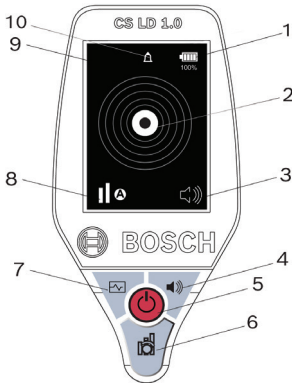

Fig 1.1: HMI View of CS LD 1.0
The unit will default to the Medium sensitivity level and Automatic mode (indicated as shown in item 8, Fig. 1.1) once the unit completes the warm up cycle. To change sensitivity levels, press the Sensitivity button (item 6, Fig. 1.1) once for High sensitivity (three bars) and again for Low sensitivity (one bar). Pressing a third time returns the sensitivity level to Medium.
To enter the Leak Tracing Mode, press the Graph button Item 7, Fig 1.1. This mode allows the user to pinpoint hard to find small leaks. The display "cursor" will move from left to right tracking the sensor output. The graph's horizontal axis (x-axis) represents a timeline from 0 to 8 seconds; the vertical axis (y-axis) indicates signal change intensity.